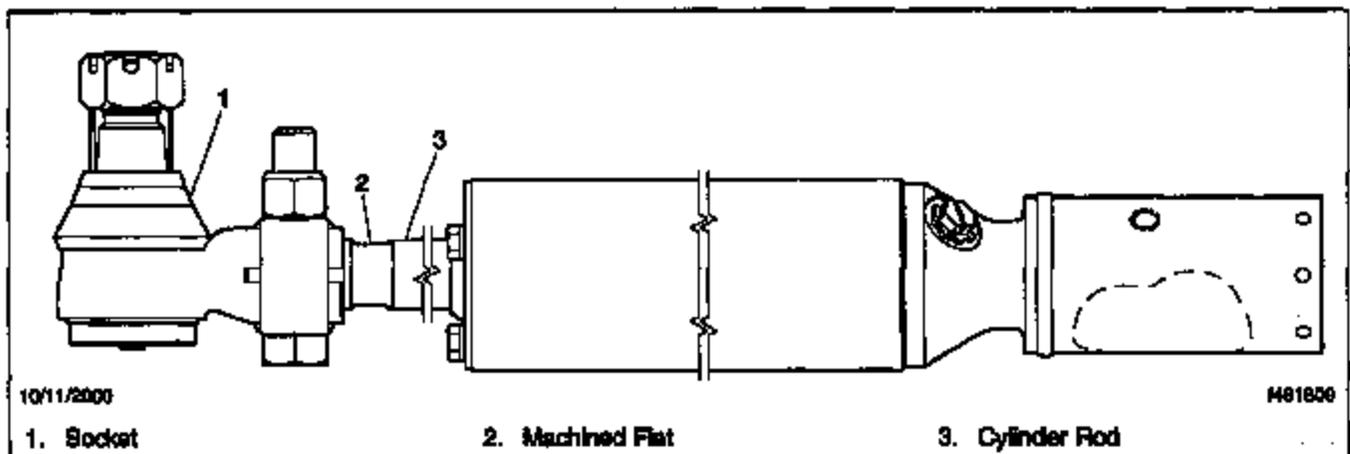

Fig. 10, Socket and Piston Rod
5. Hold the cylinder rod in position using a wrench on the machined flat. See Fig. 10. Unscrew the socket from the piston rod.